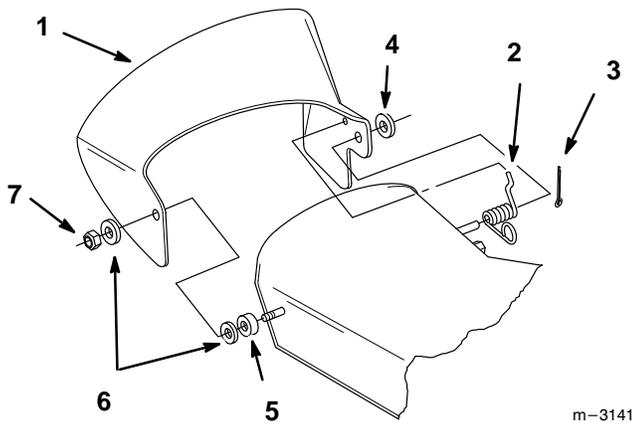

Figure 1
1. Locate items shown in Fig. 1.
3. Position spring and discharge chute over post on rear of deck and secure with 1/2" washer and 3/4" cotter pin (Fig. 1).
5. Place discharge chute over stud and secure with second plastic washer and 3/8" jam nut (Fig. 1).